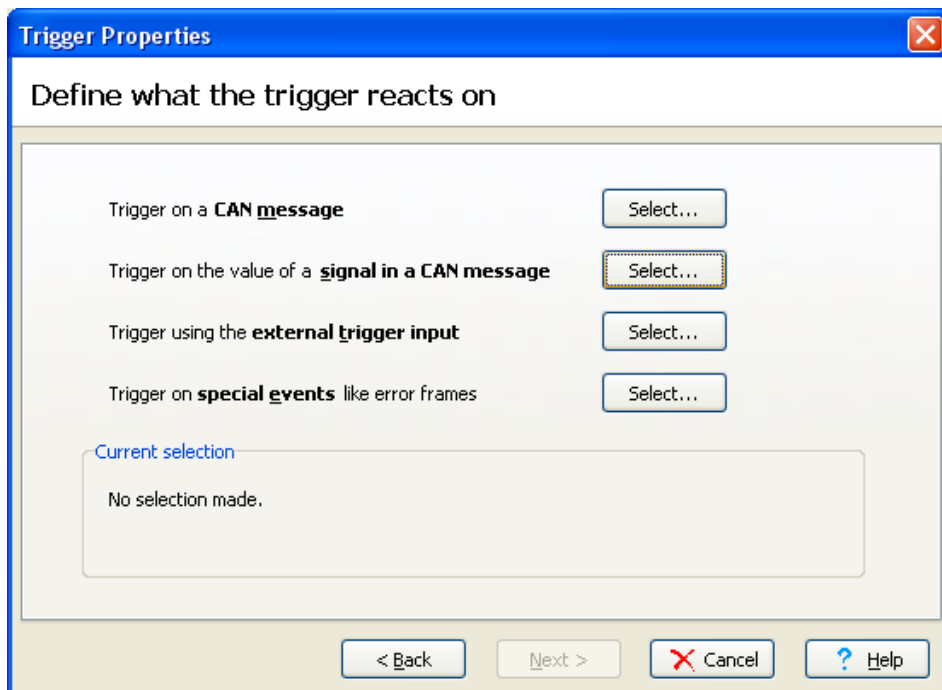

Figure 6. Define what the trigger reacts on.
- Click at the *Select* button at *Trigger on the value of a signal in a CAN message*. See Figure 6.